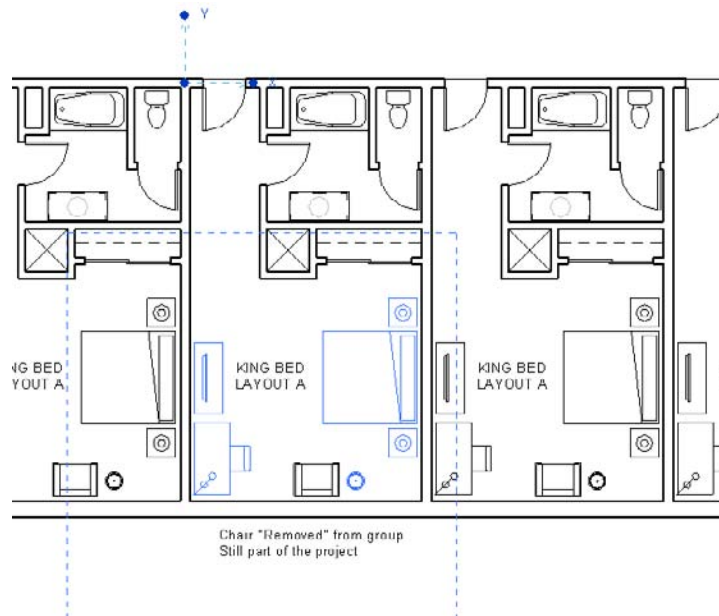

Figure 8.12
**Removing an element from the group** This isn't a named tool; it's a desired result. In this case, you don't want the element in the group, but you do want to keep it in the project and even in its current location. To accomplish this, you need to edit the group, use Remove, and then finish the group. The element will remain in place, but it is no longer part of the group's definition (refer to Figure 8.12).